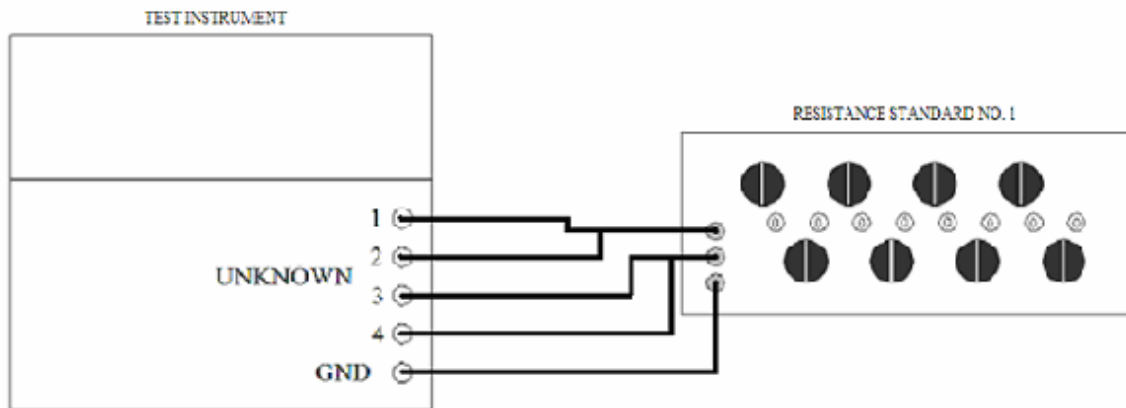

Figure 7. Decade linearization - equipment set.
- c.** Connect equipment as shown in figure 7.